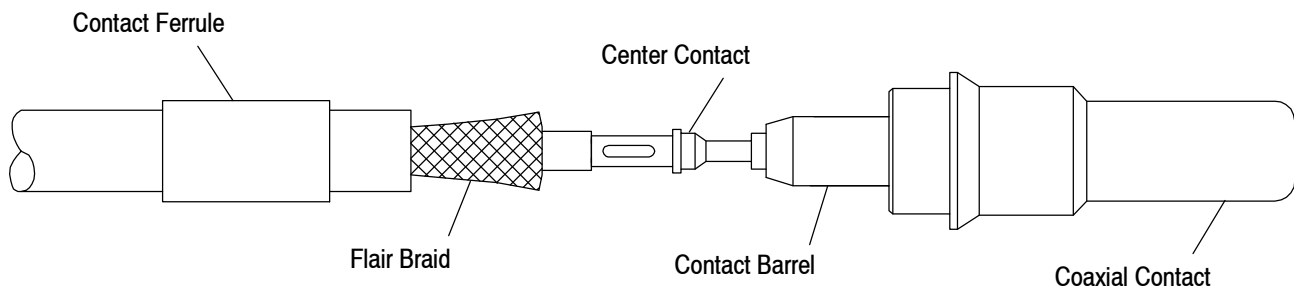

Figure 7
3. Flair the braid enough to accept the contact barrel of the coaxial contact plug assembly. Insert the center contact into the contact assembly until the center contact snaps into the clutch mechanism. The flared braid must be over the barrel portion of the assembly. See Figure 7.